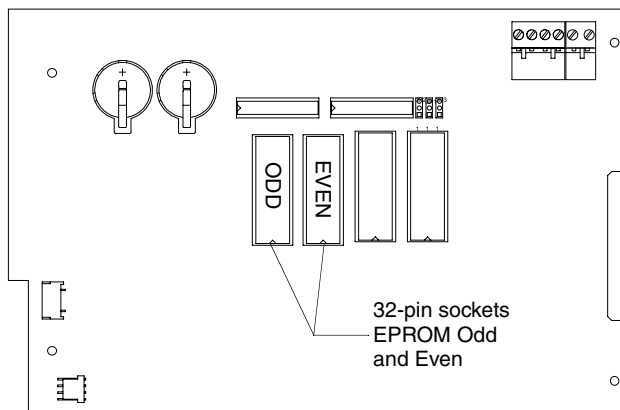

FIG. 17 EPROM location on a mounted touch panel
5. Gently tilt the circuit card down towards the connector side and pull backwards until you clear the connector housing. Then, slowly rotate the circuit card backwards until you can lay it down flat with the EPROMs exposed as seen in FIG. 17. EPROMs have stickers that indicating the firmware version.